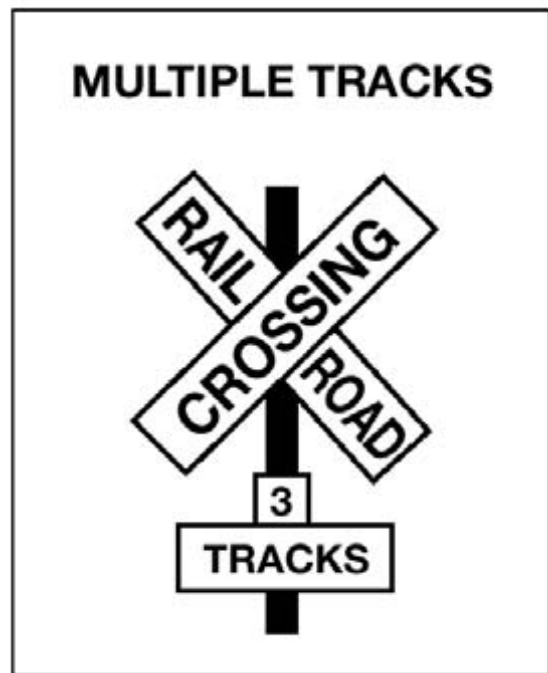

Figure 10.7
**Crossbuck Signs.** This sign marks a passive crossing. It requires you to yield the right-of-way to the train. When the road crosses over more than one set of tracks, a sign below the crossbuck indicates the number of tracks. See Figure 10.7.